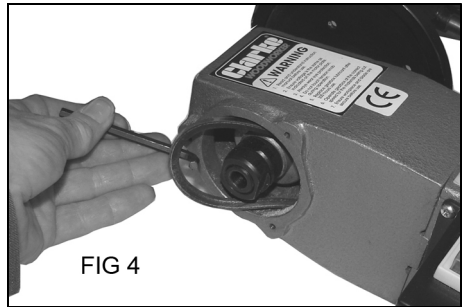

FIG 4
1. Undo the three screws (28) and remove the end cover (27).
2. Using the allen key supplied, loosen the bolts (39) to enable the motor to move and the drive belt to go slack.
3. Dismount the drive belt from the motor pulley (34) and then lift it off the drive pulley (31) towards you. Use the allen key to help you as shown in Fig 4. The belt can now be removed from the headstock frame.
4. Replacement is a reversal of the removal procedure. Tension the belt by hinging the motor downwards prior to tightening the bolts (39).